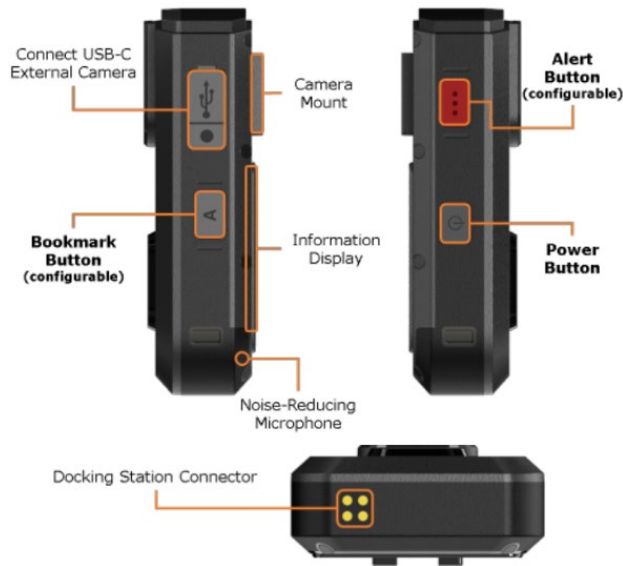

Figure 2
1. Press the power button (See Figure 2) to power off the Illustra body worn camera.
- Note:** Ensure that the docking station connector (See Figure 2) on the camera inserts into the four pins in the charging slot. The camera only fits into the slot in the correct orientation.